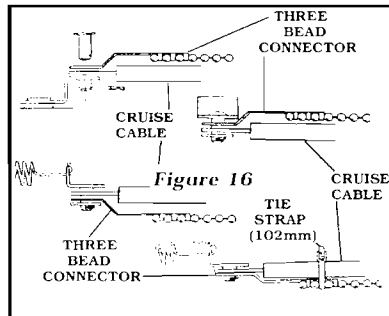

Figure 18
4. The THREE BEAD CONNECTOR may need to be bent so that it clears the throttle cable. **Figure 18** Use the TIE STRAP (102MM) to hold the THREE BEAD CONNECTOR to the sleeve of the throttle cable. **Figure 18**